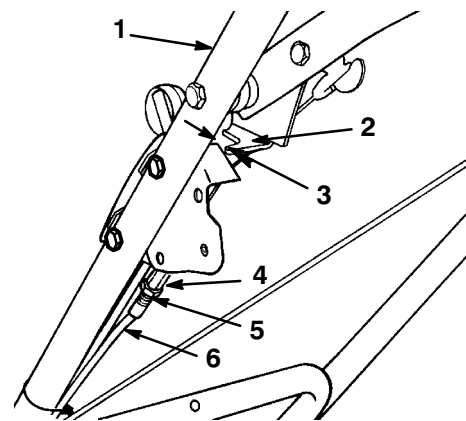

Figure 33
- A. Loosen the jam nut on the brake cable (Fig. 33).